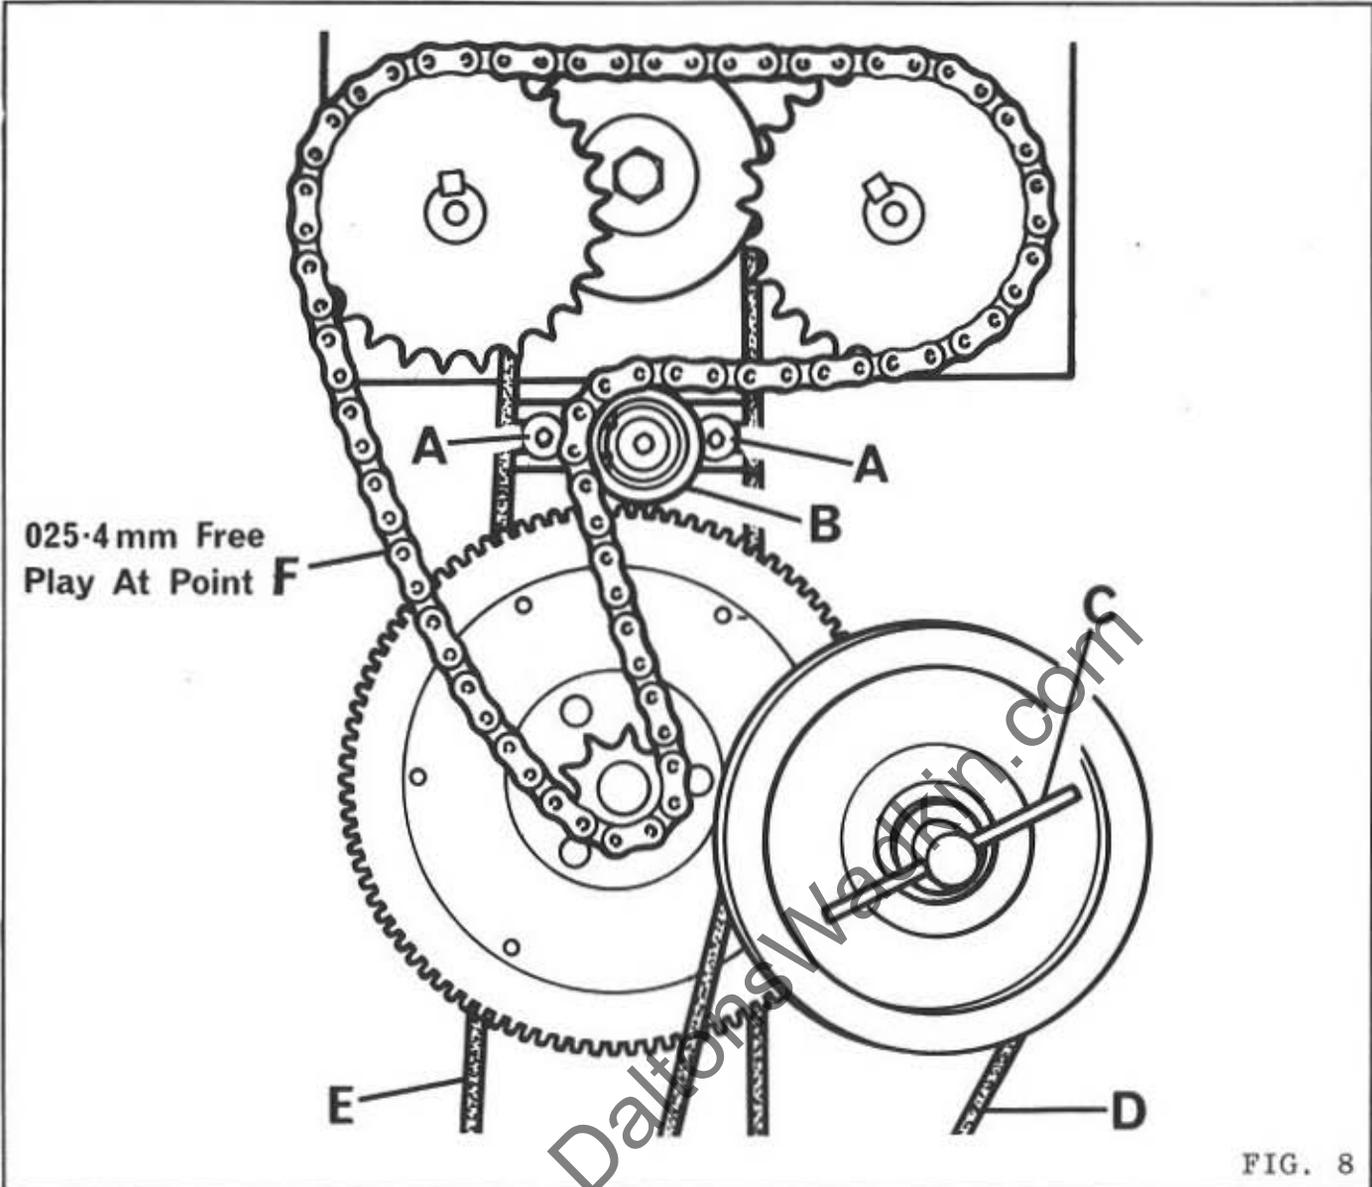
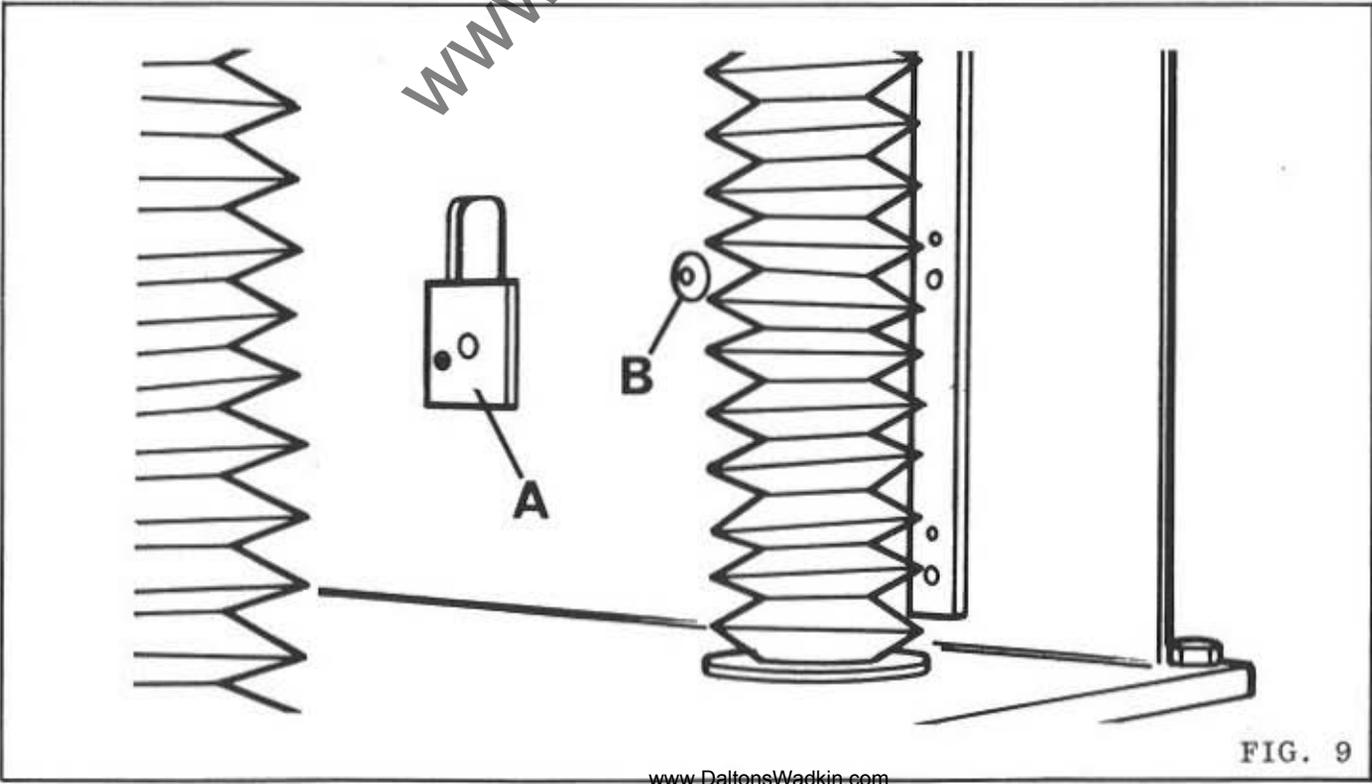

FIG. 8
FIG. 9
3. Loosen 2 button head socket screws "A" in FIG. 8 then release chain tension by moving tension roller "B".
5. Loosen feed pulley locking handle "C" in FIG. 8 then remove feed belt "D" from machine.
7. Remove feed pulley locking handle "C" in FIG. 8 and feed pulley locking plate "A" in FIG. 9.
8. Support gear and feed drive pulley then remove button head socket screw "B" in FIG. 9. Remove gear and pulley assembly.
Secure by button head socket screw "B" in FIG. 9.
3. Re-fit pulley locking plate "A" in FIG. 9 ensuring locking screw locates through centre of feed pulley.
Re-fit feed pulley locking handle "C" in FIG. 8.
6. Replace feed chain over sprockets as shown in FIG. 8 then re-fit split link.
7. Loosen 2 button head socket screws "A" in FIG. 8 then move chain tension roller "B" until correct tension is attained, i.e. the chain must have 25.4mm (1") free play at point "F" to allow feed rollers to lift.